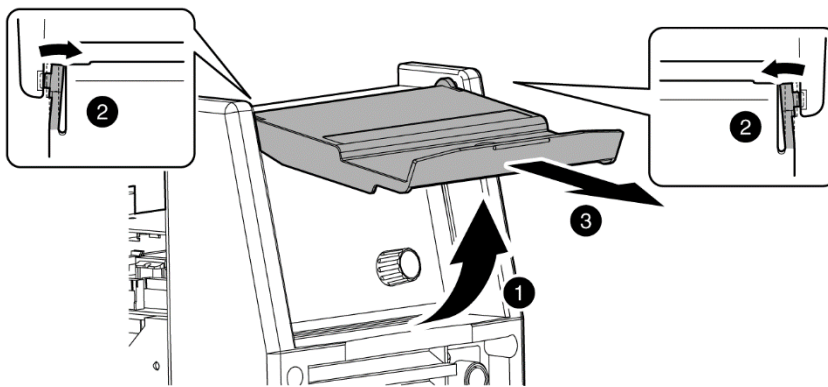

Figure 7-1 VRD ENABLE/DISABLE Step A
A) Remove the clear plastic protection cover from the front panel (see Figure 7-1).